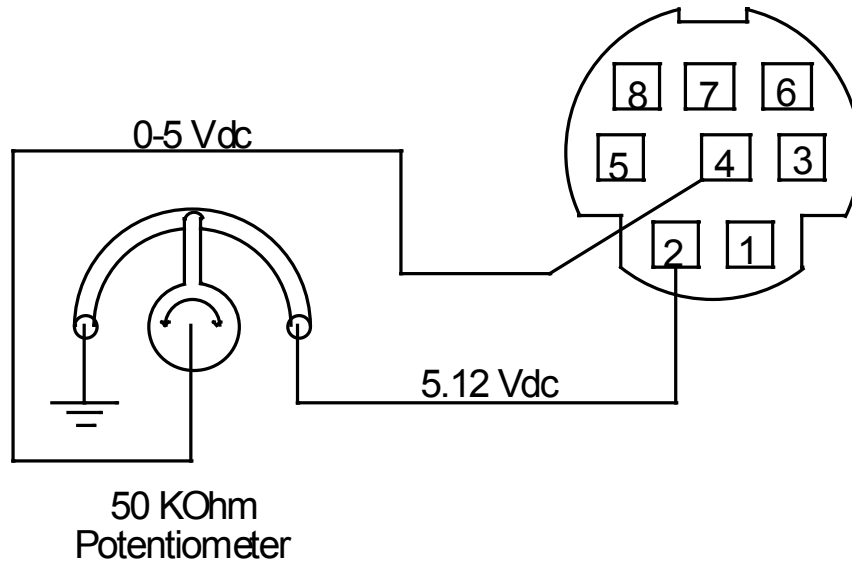

Figure 2. Simple Method for Providing Set-Point to Controllers
**Note:** Upon initial review of the pin out diagram in Figure 1, **it is common to mistake Pin 2 (labeled 5.12 Vdc Output) as the standard 0-5 Vdc analog output signal!** In fact Pin 2 is normally a constant 5.12 Vdc that reflects the system bus voltage and can be used as a source for the input signal. This allows the user in the field to run this output through a 50K ohm potentiometer and back into the analog set-point pin to create a 0-5 Vdc set-point source (see Figure 2).
Unless ordered otherwise, 0-5 Vdc is the standard analog input signal. Apply the 0-5 Vdc input signal to pin 4, with common ground on pin 8. The 5.12 Vdc output on pin 2 can be wired through a 50K ohm potentiometer and back to the analog input on pin 4 to create an adjustable 0-5 Vdc input signal source as in Figure 2 below.